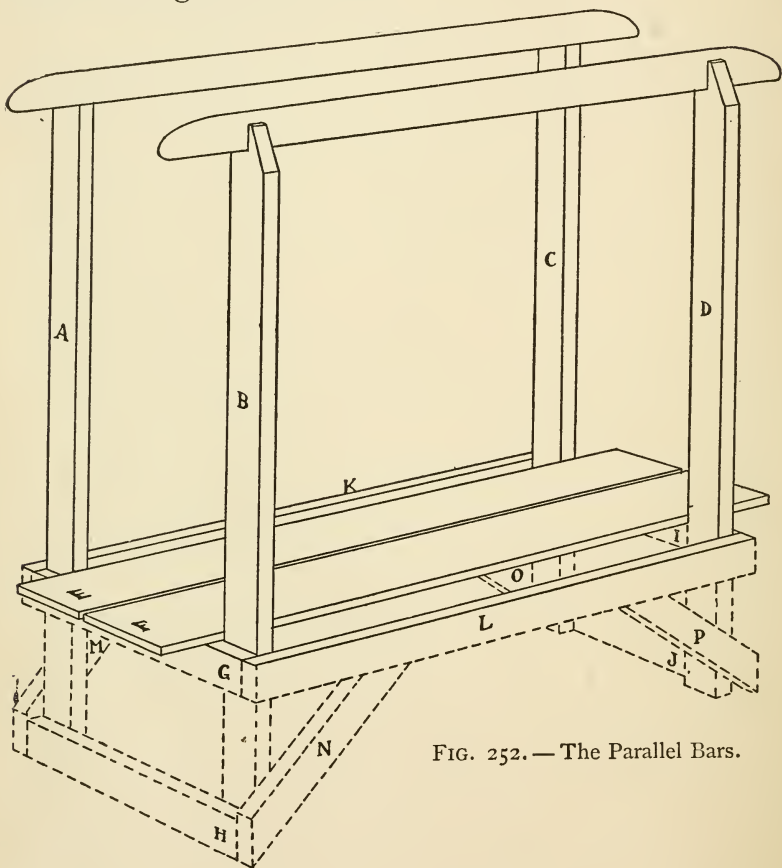

FIG. 252.—The Parallel Bars.
**Parallel Bars** is shown in Fig. 252. To acquire the necessary firmness without putting in bracing that would interfere with the performer, the base of the apparatus should be set underground, as indicated by the dotted lines in the illustration.
the two-by-fours to them at *G* and *H* (see Fig. 254). Uprights *C* and *D* should be similarly fastened together with the other two-by-fours at *I* and *J* (see Fig. 252). When these frames have been made, set them upon their bases six feet apart, and spike the two-by-fours *K*
and *L* to the uprights in the places shown in Fig. 252, with braces set between them and the pieces *H* and *J*, at *M*, *N*, *O*, *P* (see Figs. 252 and 255).
The bars should be seven feet six inches in length, and cut out of Georgia pine two-by-fours. Figures 252